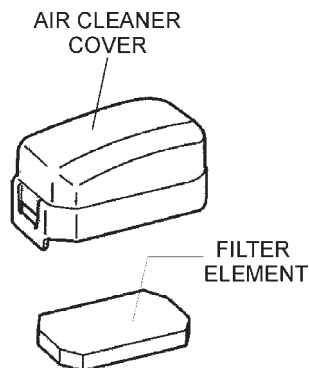

Figure 24. Air Cleaner
1. Remove the air cleaner cover and foam filter element as shown in Figure 24.